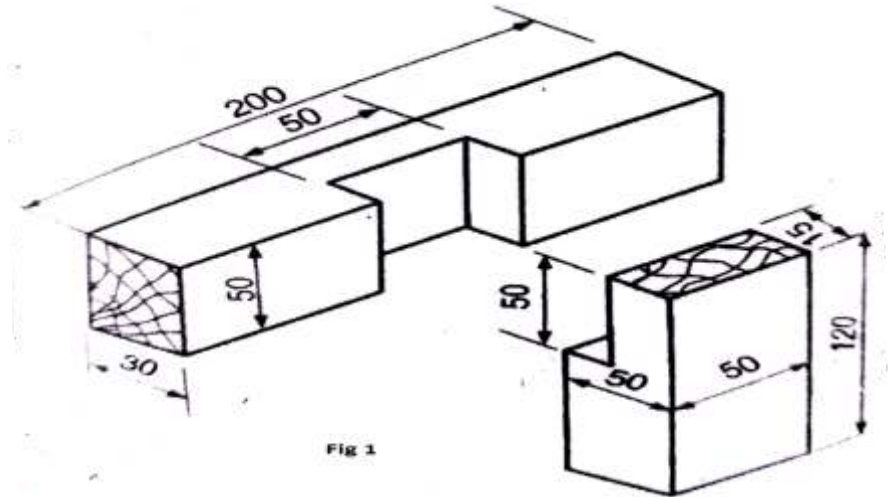

FIG 1
- Q.3 The detail drawing of two parts of Tee halving joint is shown in fig 1. Study the drawing carefully, assemble the two parts together and draw: